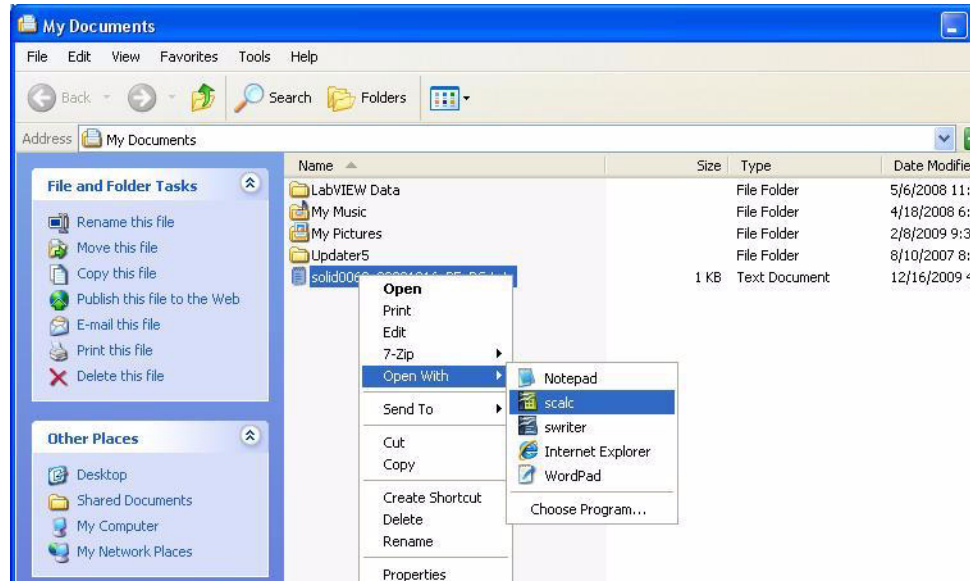

Figure 74 Open the Run Definition file.
- Open the Run Definition file that you exported using scalc (see Figure 74). If desired, you can use another spreadsheet program.